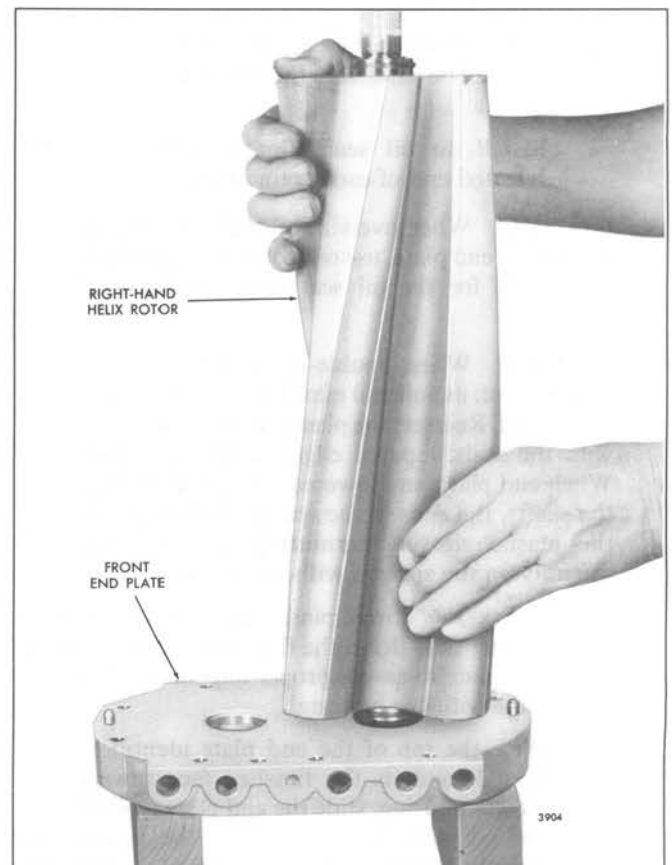

Fig. 17 - Installing Blower Rotor in Front End Plate (V-92T Blowers)
- c. Support the front end plate on two wood blocks approximately 4" high, with the inner face of the end plate facing up and the TOP side of the plate facing the serviceman's right (Fig. 17).
- f. With the omitted serration in the splines of the shaft facing toward the top side of the end plate, start the end of the rotor shaft into the right-hand shaft opening in the end plate so that the gap portion of the seal ring is started into the ring collar (Fig. 17). Continue to lower the rotor and very carefully apply pressure to the seal ring approximately 180° from the gap while gently working the seal ring into the collar until the rotor contacts the end plate.